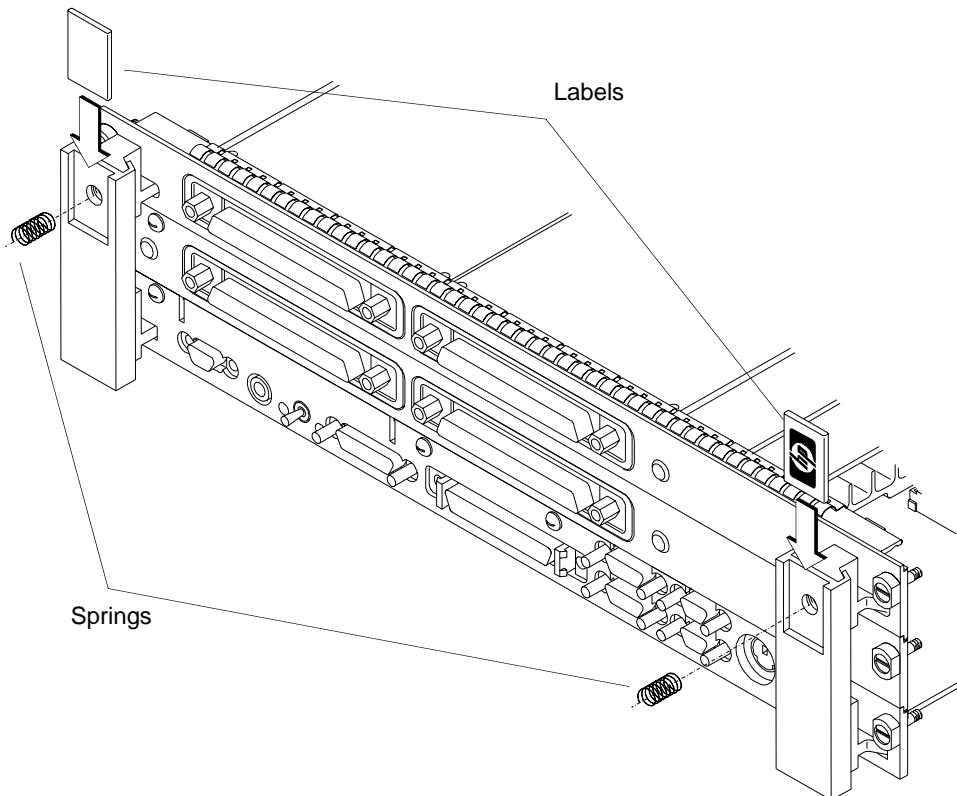

Figure 2-12 **Installing the Springs and Labels**
- c Thread the springs included in the kit into the ejector handles on the PMC expansion board, and with the springs compressed, slide the labels from the Model 744 Board Computer into the sleeves, as shown in Figure 2-12.